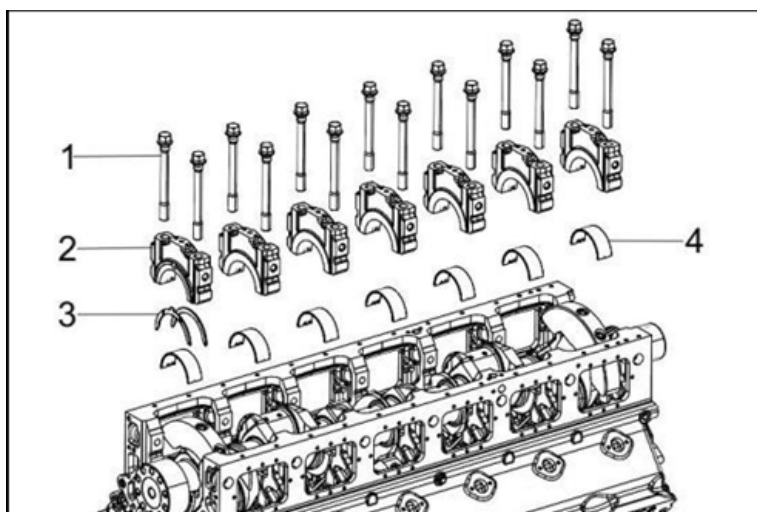
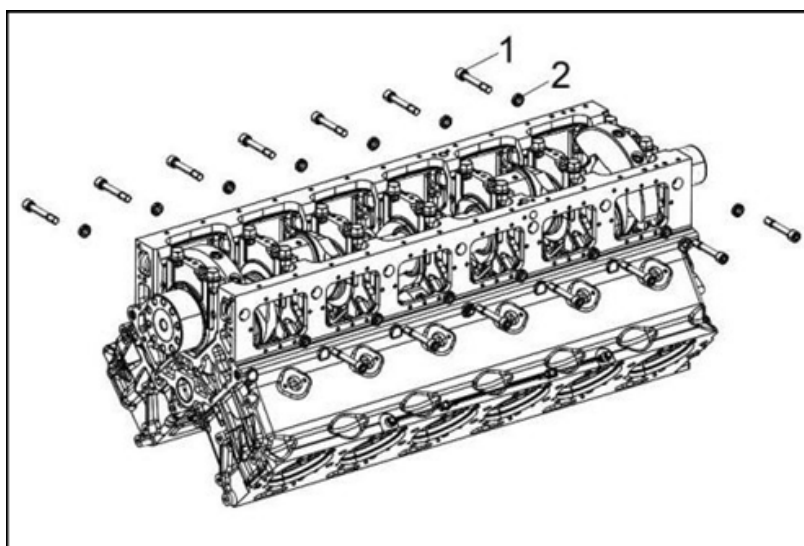

Figure 135.
Figure 136.
6. Reinstall new main bearing (Figure 135, item 4) and thrust plate (Figure 135, item 3) in the main bearing caps (Figure 135, item 2).
7. Reinstall the main bearing caps (Figure 135, item 2).
8. Apply a light coat of clean engine oil to the bearing cap main bolts (Figure 135, item 2) and auxiliary bolts (Figure 136, item 1) with washer (Figure 136, item 2).